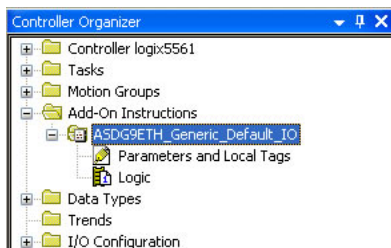

Figure 83: Generic Default I/O AOI
- 2) Right click on "Add-On Instructions" in the controller organizer view and select "Import Add-On Instruction". Browse and import the generic default I/O AOI. Refer to Figure 83.